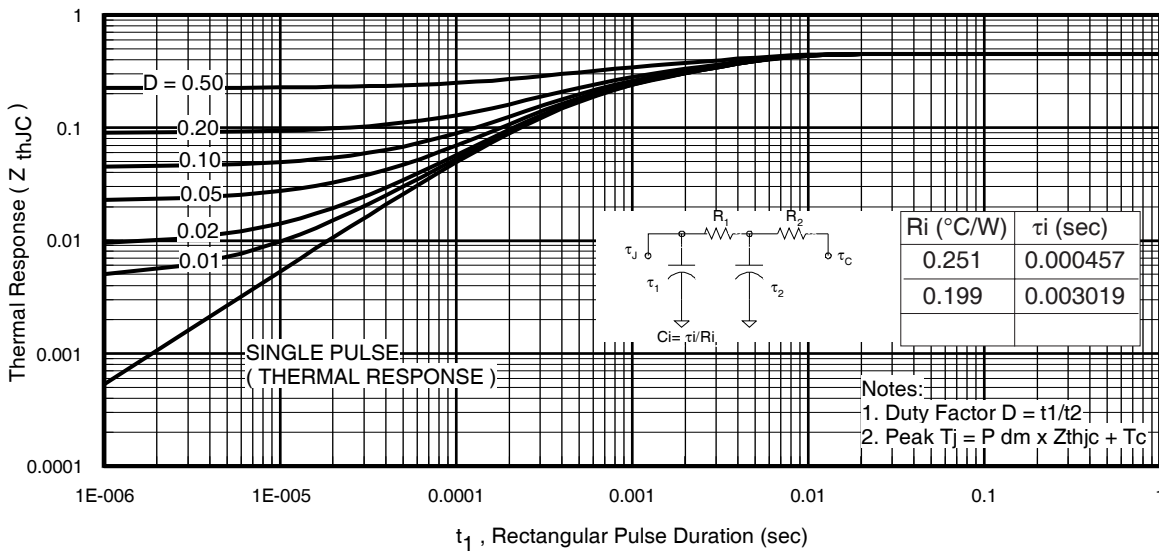
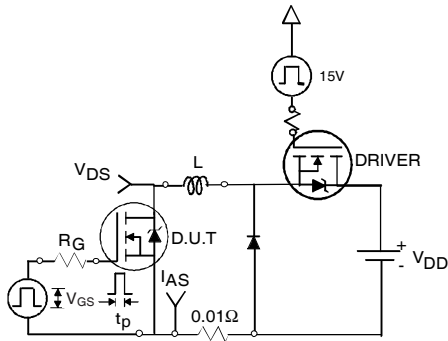

Fig 11. Maximum Effective Transient Thermal Impedance, Junction-to-Case
Fig 12a. Unclamped Inductive Test Circuit
- ① Repetitive rating; pulse width limited by max. junction temperature. (See fig. 11).
- ② Limited by T_{Jmax} , starting $T_J = 25^\circ\text{C}$, $L = 0.11\text{mH}$, $R_G = 25\Omega$, $I_{AS} = 75A$, $V_{GS} = 10V$. Part not recommended for use above this value.
- ③ $I_{SD} \leq 75A$, $di/dt \leq 340A/\mu s$, $V_{DD} \leq V_{(BR)DSS}$, $T_J \leq 175^\circ\text{C}$.
- ④ Pulse width $\leq 1.0\text{ms}$; duty cycle $\leq 2\%$.
- ⑤ $C_{oss\ eff.}$ is a fixed capacitance that gives the same charging time as C_{oss} while V_{DS} is rising from 0 to 80% V_{DSS} .
- ⑥ Limited by T_{Jmax} ; see Fig.12a, 12b, 15, 16 for typical repetitive avalanche performance.
- ⑦ This value determined from sample failure population. 100% tested to this value in production.
- ⑧ This is applied to D²Pak, when mounted on 1" square PCB (FR-4 or G-10 Material). For recommended footprint and soldering techniques refer to application note #AN-994.
- ⑨ R_{θ} is measured at T_J of approximately 90°C .
3. Equation below based on circuit and waveforms shown in Figures 12a, 12b.
$Z_{thJC}(D, t_{av})$ = Transient thermal resistance, see figure 11)